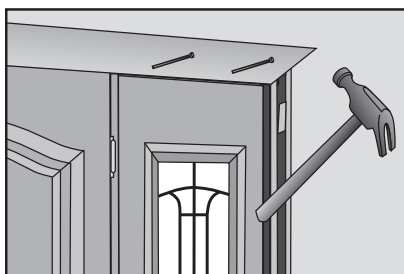

Fig. 34
- B. Measure, cut and set one trim leg. Reveal of the trim to be approximately 3/16" from inside edge of jamb. Measure both ends of head trim, cut if necessary, then set (**Fig. 34**). Measure, cut and set other trim leg.